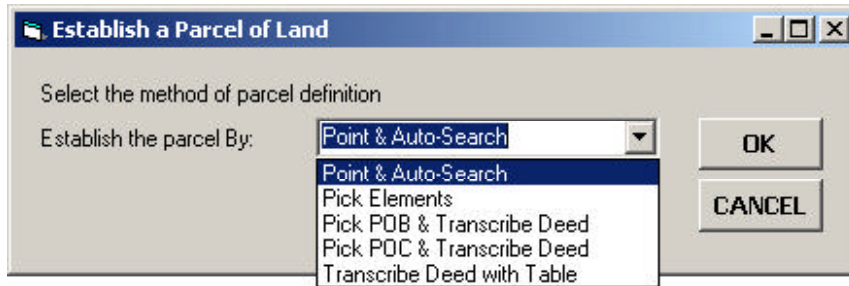

Figure 3
- 2 Click at the **start point** of the parcel/traverse, or of the tie-line, if there is a tie line, to display the choice list box of Figure 3.